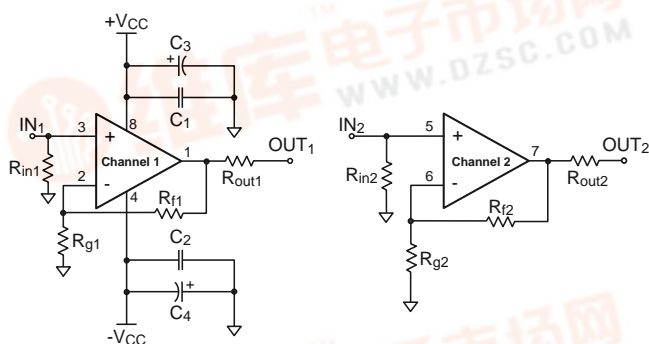

Figure 1: Non-inverting Gain Configurations
Figure 1 shows the non-inverting schematic for both boards. The input signal is brought into the board through SMA connectors to the non-inverting input of the amplifier. The resistor  $R_{in}$  is used to set the input termination resistance to the op amp. The non-inverting gain is set by the following equation:
1. Included  $R_f$  and  $R_g$  as shown in Figure 1